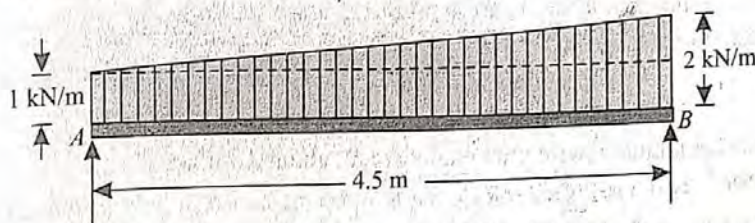

Fig. 9.9.
**Example 9.3.** A simply supported beam AB of span 4.5 m is loaded as shown in Fig. 9.9.